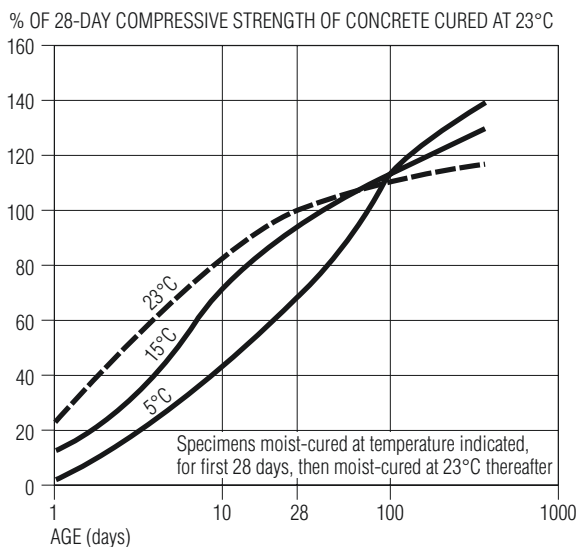

Figure 2: Typical effect of low temperatures on concrete compressive strength
- **Slower Strength Gain** As **Figure 2** indicates, at low temperatures the gain in concrete strength is considerably slower than at normal temperatures; this will delay the removal of formwork. **Table 1** gives guidance on the minimum periods for which formwork and formwork supports must be left in place depending on the average ambient temperature over the period.